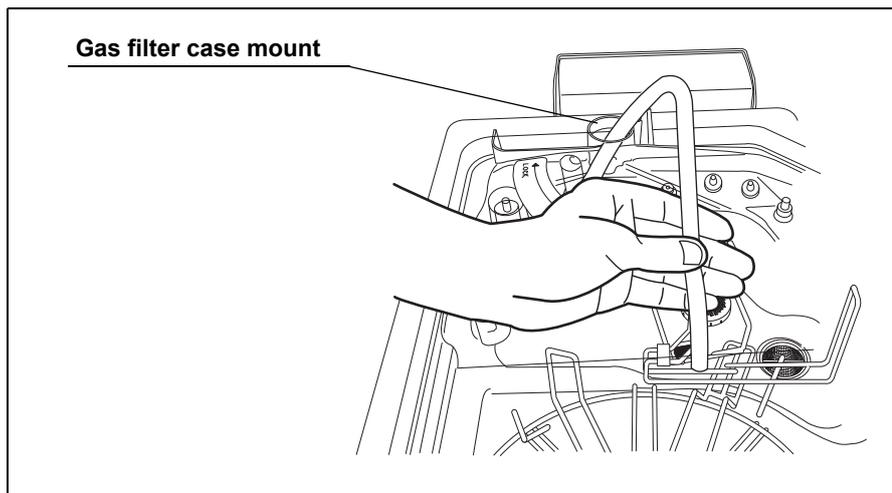

Figure 7.41
8. Close the lid while taking the sampling tube out of the gas filter case mount (see Figure 7.41).